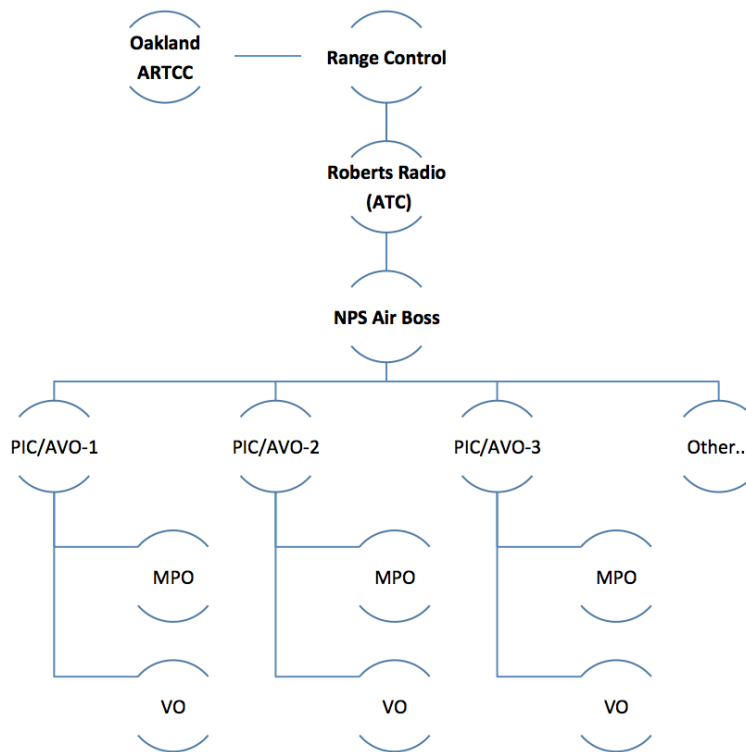

Figure 9. Air C2 organizational structure
h. Visual Observer (VO). The Visual Observer is a trained person who assists the unmanned aircraft pilot in the duties associated with collision avoidance. This includes, but is not limited to, avoidance of other traffic, clouds, obstructions and terrain. An observer is required for all UAS operations at Camp Roberts. Additionally, the VO shall be the primary radio communication interface between the UAC/PIC/AVO and the NPS Air Boss and range safety officer (RSO).
*****All FX participants (whether ground or aviation related) must request permission from the Air Boss to radiate on their approved frequency(s) before they power up their device and notify the Air Boss when the RF is shut down.*** The Air Boss will manage and de-conflict all RF frequency usage. Typical FX frequencies are contained in Table 6 and the Air C2 communication network is provided in Fig 9.